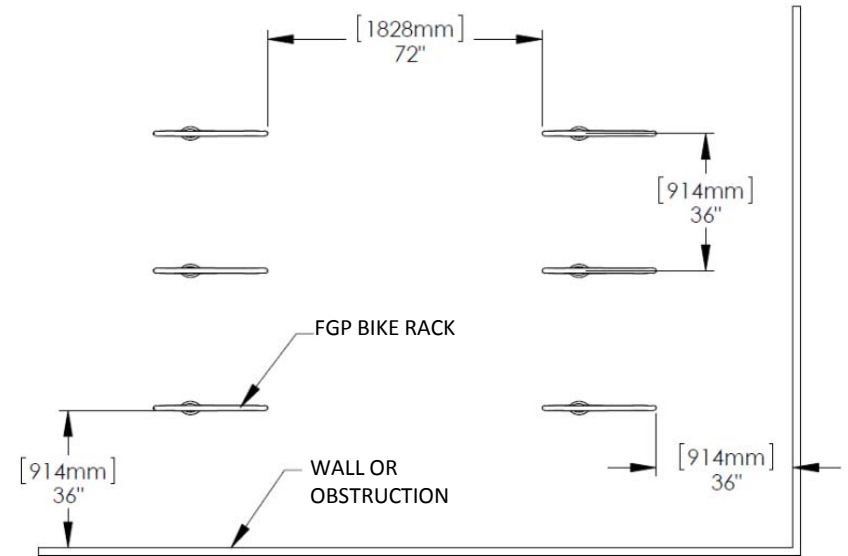

Fig. 1 - Recommended spacing, according to Association of Pedestrian and Bicycle Professionals (APBP), 2nd edition
3. Mark hole locations. See Fig. 1 for recommended spacing.